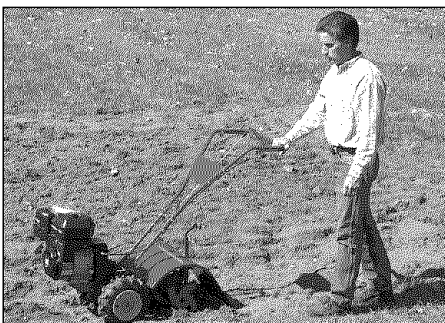

Fig. 4-2: Use one hand to guide tiller when moving forward.
- (b) When tilling, relax and let the wheels pull the unit while the tines dig. Walk behind and a little to one side of the unit. Use one hand, yet keep a light—but secure—grip on the handlebar (while keeping your arm loose). See Fig. 4-2. Let the unit move at its own pace and do not push down on the handlebars to try and force the tines to dig deeper — this takes weight off the wheels, reduces traction, and causes the tines to try and propel the tiller.